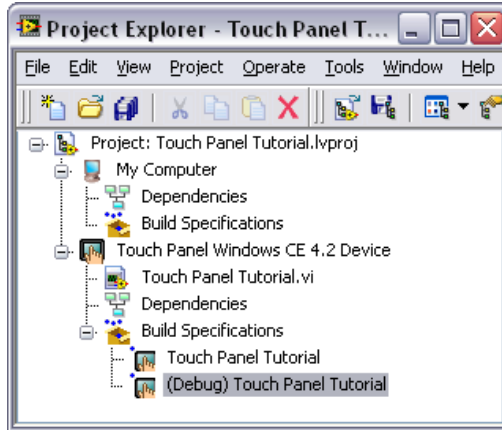

Figure 9. Two Touch Panel Build Specifications in the Project Explorer Window
7. Click the **OK** button. The build specification you just created appears in the **Project Explorer** window as shown in Figure 9.
1. Right-click the build specification for the Touch Panel VI you want to build and deploy, which is **(Debug) Touch Panel Tutorial** in Figure 9, and select **Debug** from the shortcut menu. Save any VIs if prompted.